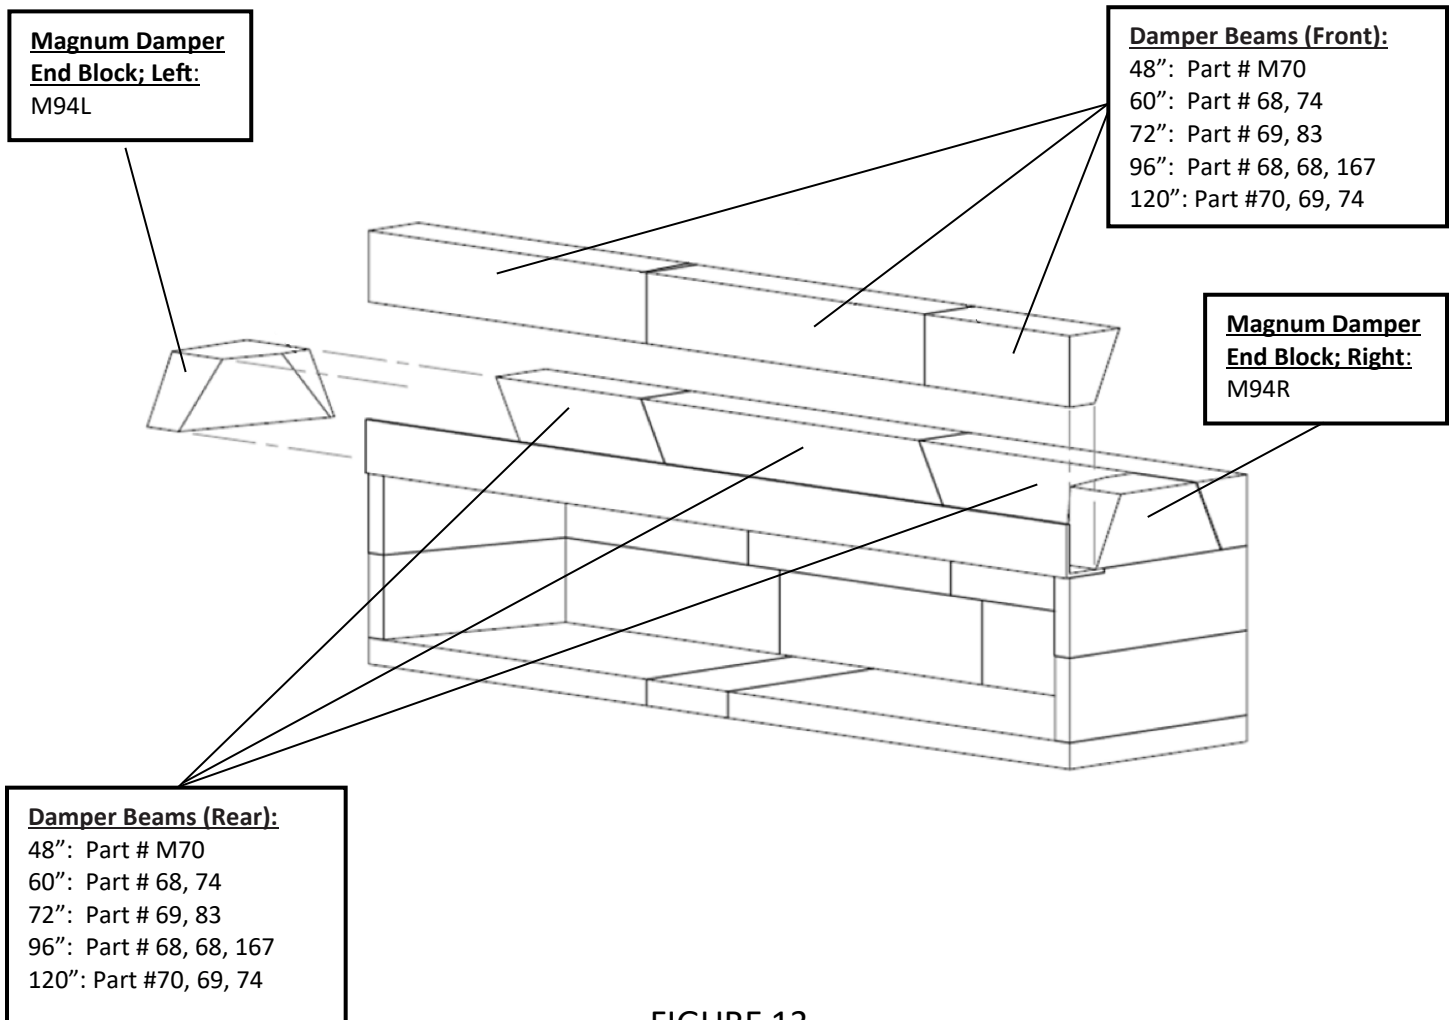

FIGURE 13
The damper beam assembly consists of long lintel pieces and two (2) short damper end blocks. The lintels will be equal to the width of the fireplace model that they serve. These components both sit on their narrow base so that their beveled face points down and into the firebox interior (**Figure 13**).
The damper end blocks are designed to sit on the firebox side wall between the front lintel and the back lintel. Each of the damper end blocks are designed for a specific side of the unit. When properly set, the vertical face of each damper end block will be flush with the outside face of the firebox side wall. (**Figure 13**).